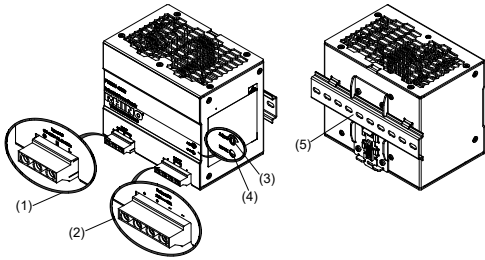
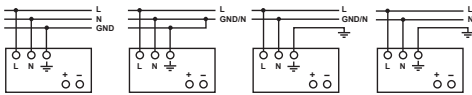

Figure 1
Figure 5
## 2. Device description (Fig. 1)
### 5.1. Input connection (Fig. 1 (1), Fig. 5)
Use L, N and GND connections of input terminal connector (see Fig. 1 (1)) to establish the 100-240 VAC connection. The unit is protected with internal fuse (not replaceable) at L pin and it has been tested and approved on 20A (UL) and 16A (IEC) branch circuits without additional protection device. An external protection device is only required if the supplying branch has an ampacity greater than above. Thus, if an external protective device is necessary, or, utilized, a minimum value of 8A B- or 4A C- characteristic breaker should be used.
### 5.2. Output connection (Fig. 1 (2))
Use the "+" and "-" screw connections to establish the 24 VDC connection. The output provides 24 VDC. The output voltage can be adjusted from 24 to 28 VDC on the potentiometer. The green LED DC OK displays correct function of the output (Fig. 1 (4)). The device has a short circuit and overload protection and an overvoltage protection limited to 35 VDC.